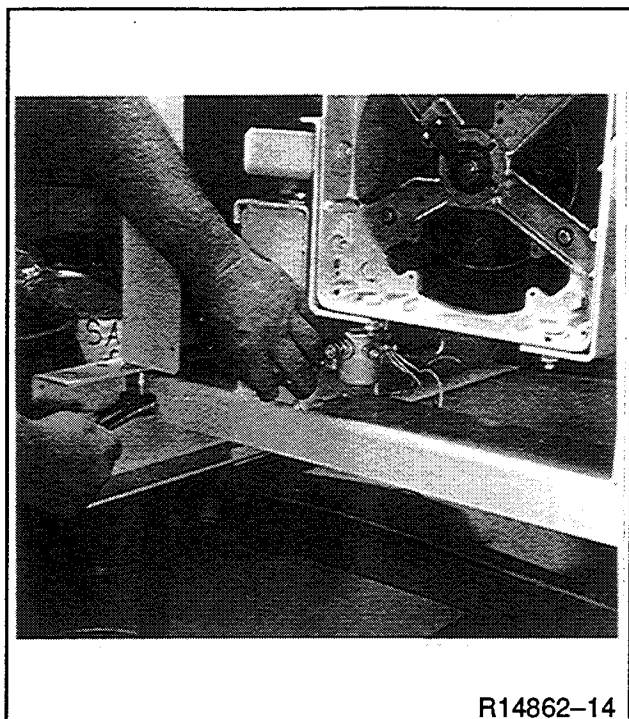

Figure 9-8. Removing Junction Box
7. Remove four screws, flat washers, and nuts attaching junction box to generator skid. See Figure 9-8.